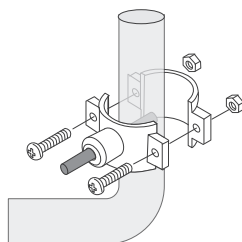

Figure 9
- Slip the front plate over one end of the tubing (without a mark) and insert the tubing into the drilled hole for about 0.6" (Figure 9).